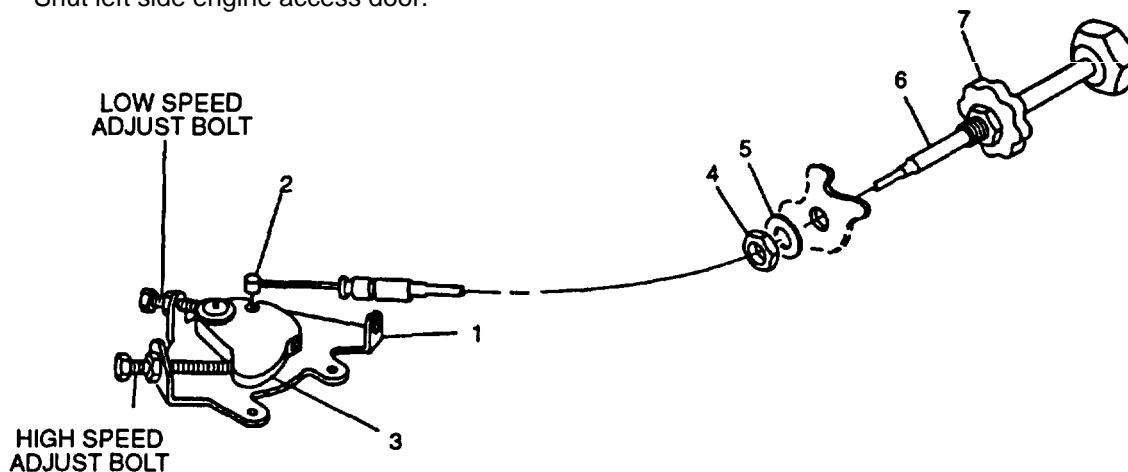

FIGURE 2-24. Frequency Adjust Control Cable Assembly
- d. Spread keeper (1, FIGURE 2-24) and remove control cable wedge (2) at governor speed lever (3).
- e. Open load terminal board access door and loosen nut (4). Slide nut (4) and washer (5) off cable assembly (6).
- f. Remove frequency adjust control cable assembly (6) from rear of generator set.
- a. Insert frequency adjust control cable assembly (6, FIGURE 2-24) at rear of generator set.
- b. Install washer (5) and nut (4), and close load terminal board access door.
- c. Install control cable wedge (2) at governor speed lever (3).
- d. Install frequency control cable (6) in keeper (1). Close keeper (1).
- b. Open left side engine access door and remove control cable wedge (2, FIGURE 2-24) from governor speed lever (3).
- c. Loosen jam nuts on both speed adjust bolts on governor control and turn bolts counterclockwise until they do not touch speed lever (3).
- d. Adjust frequency control adjust cable (6) with nuts (4) and (7) and connect cable to speed lever (3) so that lever is positioned approximately mid-range.
- f. Turn high speed adjust bolt on governor control until it contacts speed lever (3) and tighten jam nut.
- h. Turn low speed adjust bolt on governor control until it contacts speed lever (3) and tighten jam nut.